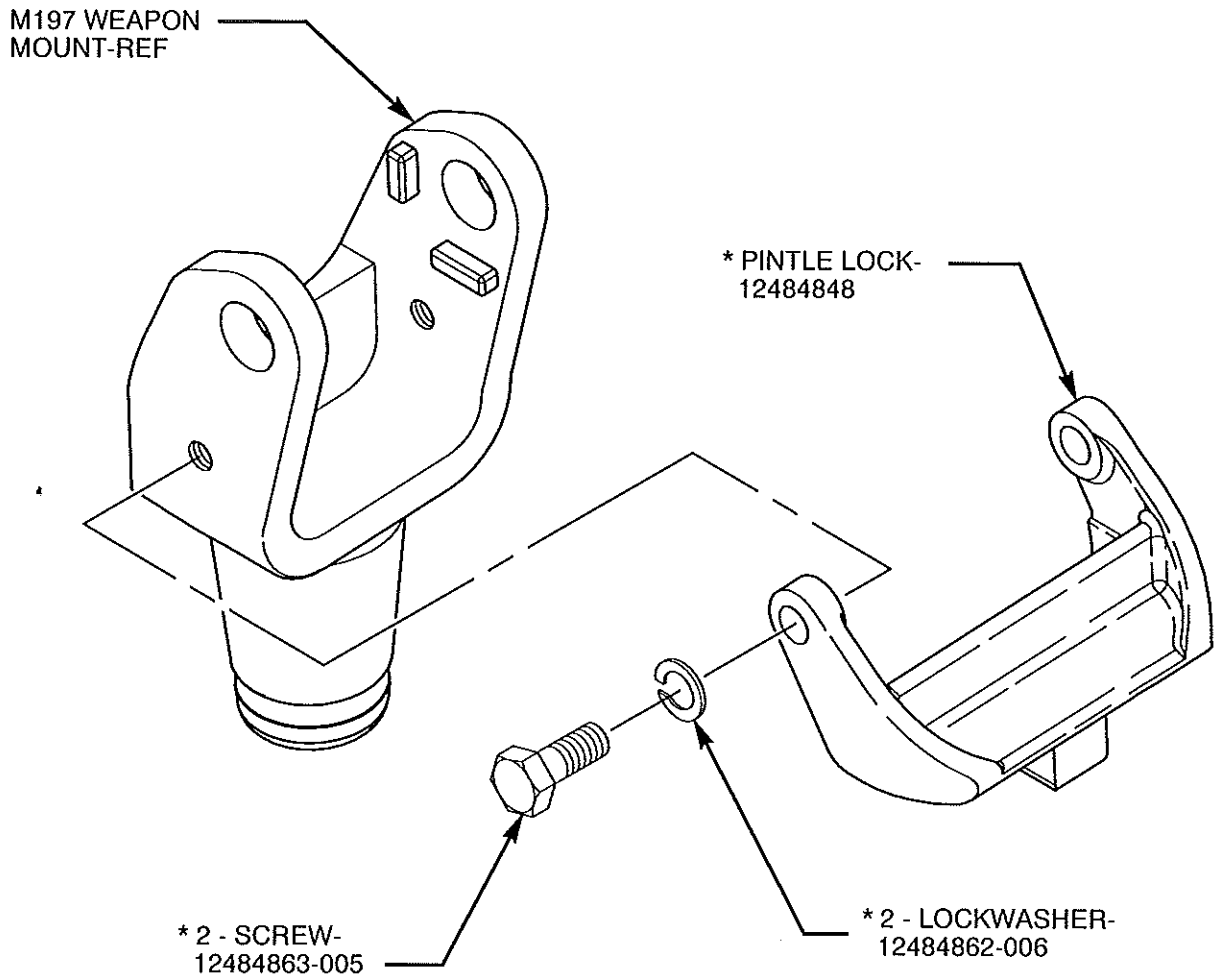

FIGURE 4
- 3-5. WHEN THE M197 WEAPON MOUNT IS USED, INSTALL 12484848 PINTLE LOCK ONTO M197 WEAPON MOUNT AND SECURE WITH TWO 12484863-005 SCREWS AND 12484862-006 LOCKWASHERS AS SHOWN IN FIGURE 4. TIGHTEN SCREWS TO 10 LB-FT (13.5 N·m). PINTLE LOCK IS USED WITH M197 WEAPON MOUNT WITH M240 AND M249 WEAPONS. ENSURE WEAPON ROTATES WITH GUNNER SHIELD AFTER INSTALLATION.